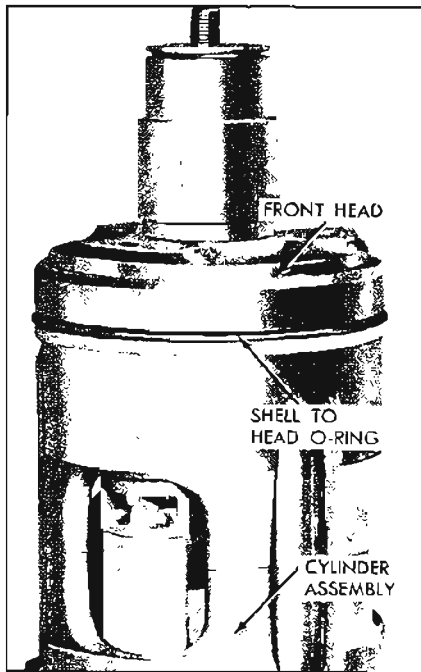

Figure 11-101—Shell to Head O-Ring Installation
47. Place new shell to head "O" ring on shoulder of front head (see Figure 11-101) and liberally coat "O" ring and front head surface with No. 525 viscosity oil.